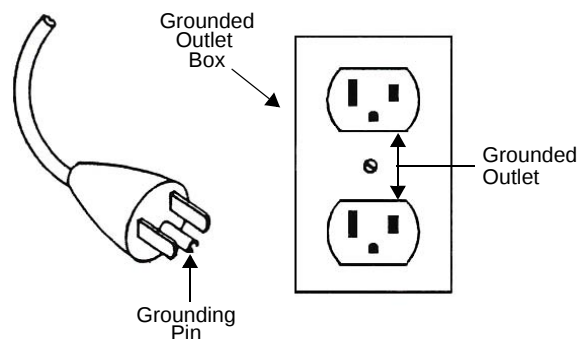

Figure 3 Grounding Plug and Outlet
- ❑ *When this product is configured for use on a nominal 120 V circuit, it must be used with a grounding plug that looks like the plug illustrated in Figure 3.*